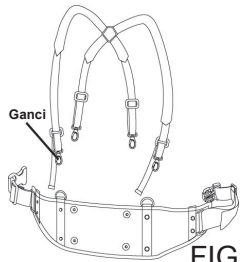

FIG. 24
- Connect hooks to belt (See fig.24).